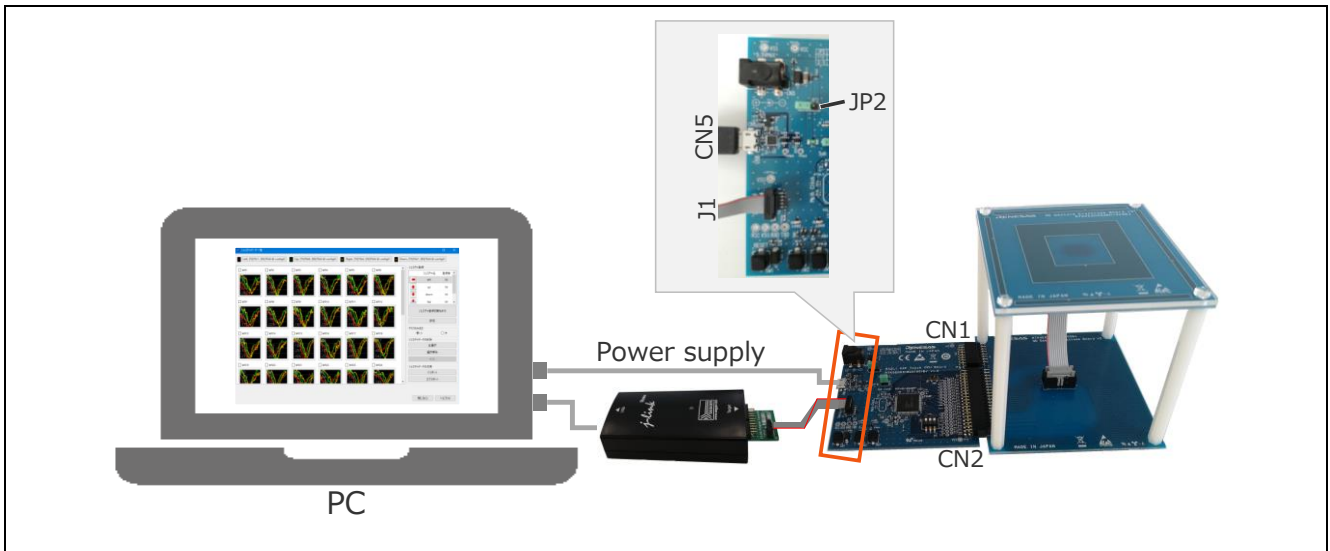

Figure 2-5 Connection Diagram when Power is supplied from USB
- Figure 2-5 shows the connection diagram when power is supplied from USB.